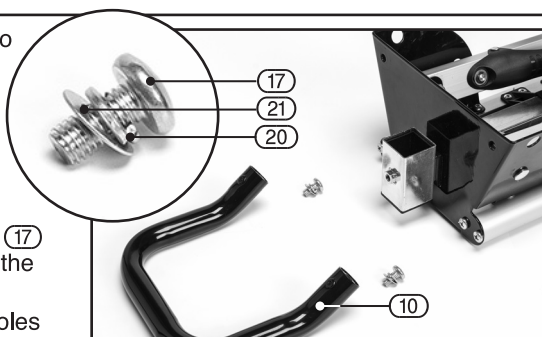

FIG.1
8.1 ASSEMBLE TRANSPORT HANDLE – FIGS.1 – 2
- Utilising 2 sets of fixings, thread the screws (17) with lock washers (20) and washers (21) in the same order as indicated inset in Fig.1.
- Align the holes in the handle (10) with the holes located at the end of the body of the mitre saw, as shown in Fig.1.